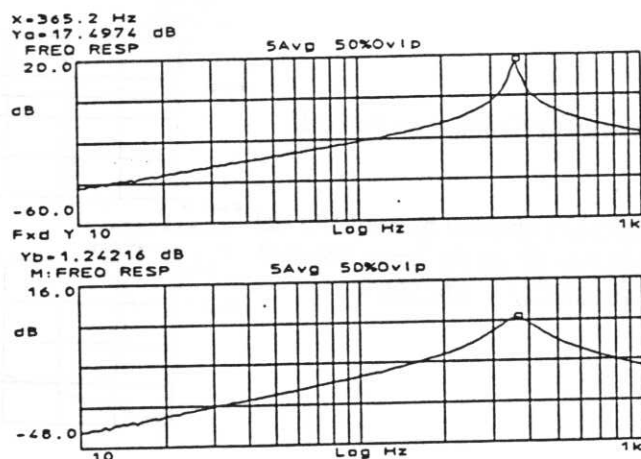

Figure 15-11. Calculating Open-Loop Response
T/1 – T calculates open-loop response from a measured closed-loop frequency response curve, as the example in figure 15-11 shows. To yield a valid result, the measured response (T) must be the active trace.